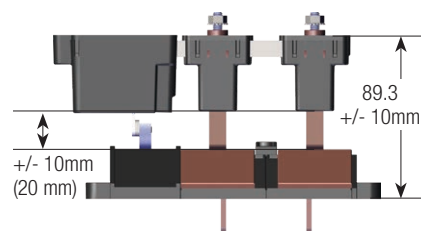

Figure: 4-2
1. Mount the collector assembly to allow for overall mounting height as well as maximum collector movement to ensure consistent contact when in use. See **Figure: 4-2**.